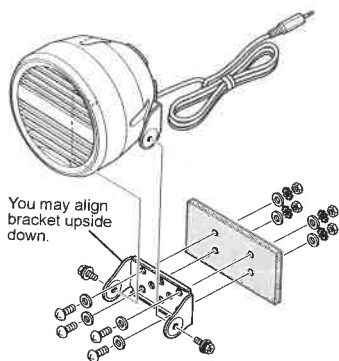
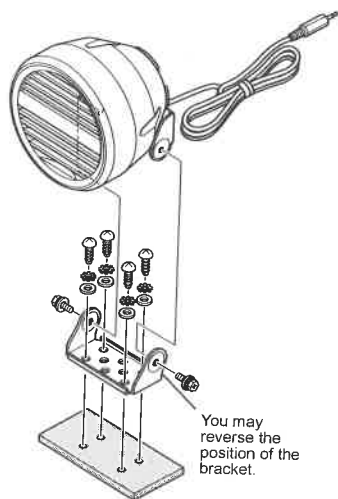

Figure 1
Figure 2
4. Use a 5.2-mm (17/64") bit to drill thru holes at the marked locations. Secure the bracket with the supplied screws, spring washers, flat washers, and nuts (Figure 1). Or alternatively, drill pilot holes with a small drill, and secure the bracket with the supplied self-tapping screws, spring washers, and flat washers (Figure 2).